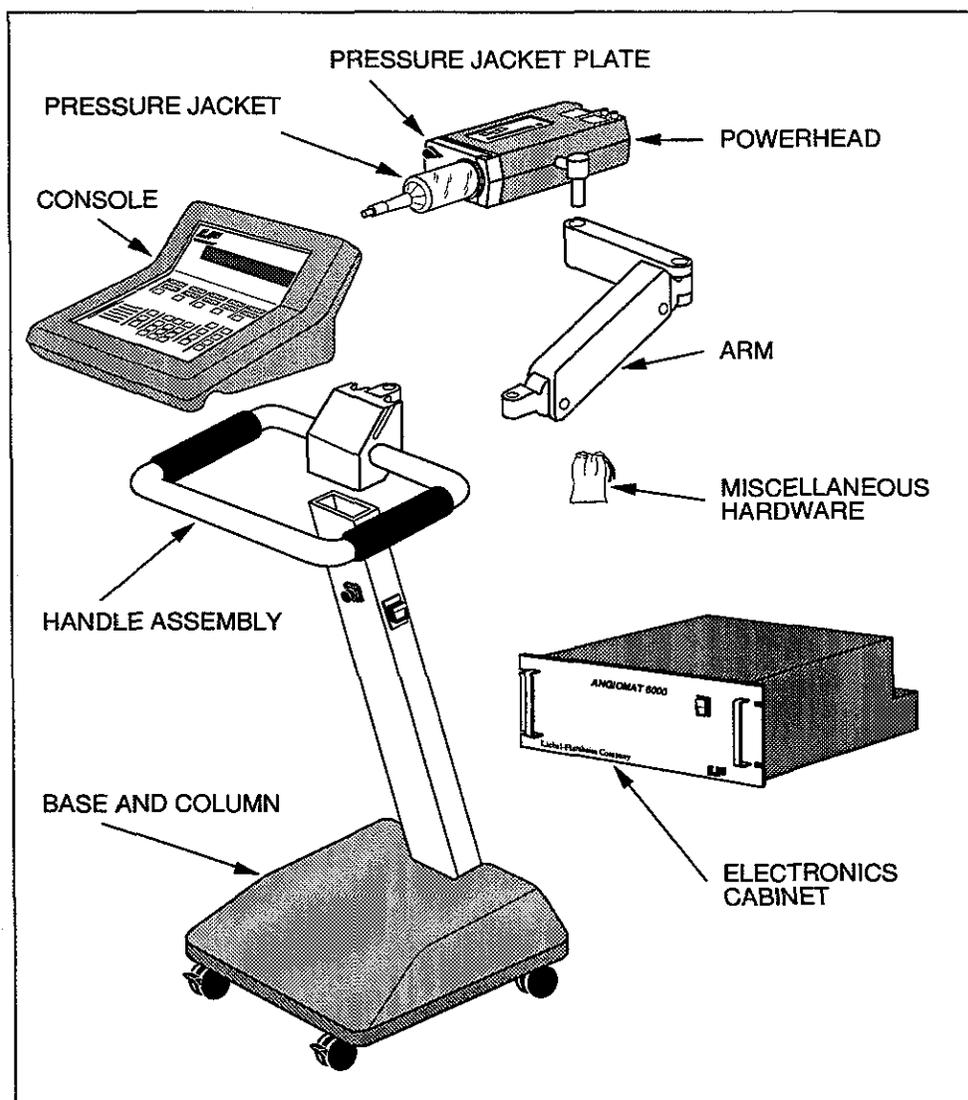

Figure 2-1
Unpack the system and verify receipt of all components listed for the applicable injector configuration. See Figure 2-1.
1. Position the console in accordance with Figure 2-1.